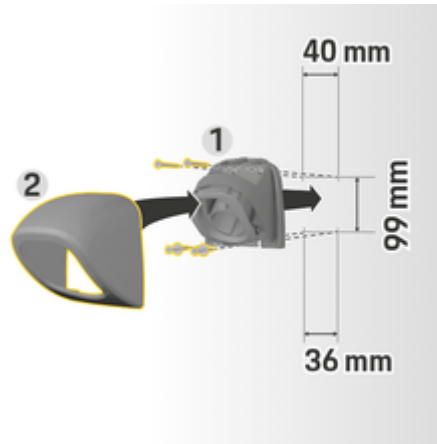

Fig. 28 Drilling dimensions
1. Remove the connector fastener 1 (Fig. 28) from the cover 2 (Fig. 28).
4. Screw the connector fastener 1 (Fig. 28) onto the wall.
5. Fit the cover 2 (Fig. 28) onto the connector fastener 1 (Fig. 28) from below and push up.